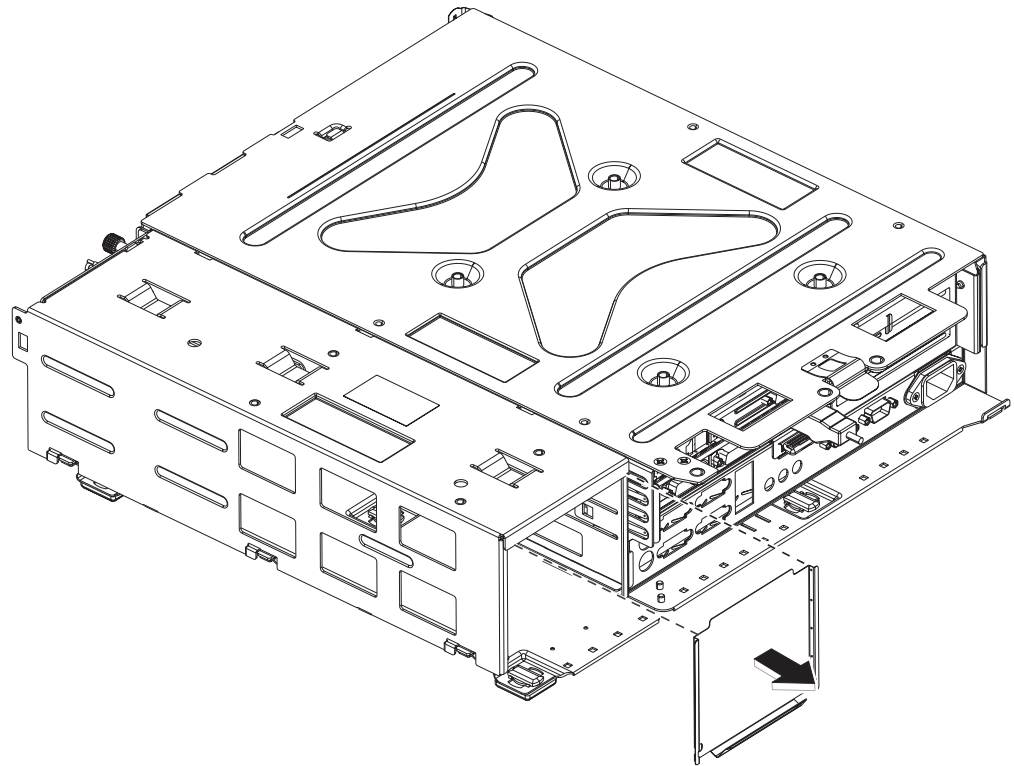

Figure 19. Removing the sheet metal panel
- a. Place the unit in the operating position as shown in Figure 19.
- b. To install the UPS, remove the sheet metal panel (see Figure 19).